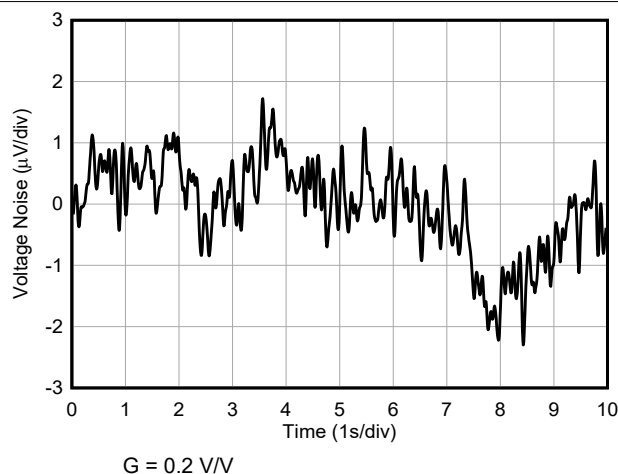

Figure 7-27. 0.1-Hz to 10-Hz RTI Voltage Noise
0.1-Hz to 10-Hz RTI Voltage Noise, $G = 0.2$	<a href="#">Figure 7-27</a>